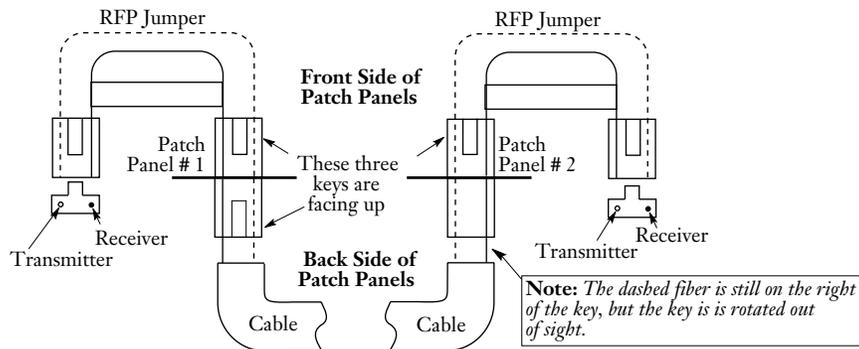

Figure 11
3.4 To correct this, a connector in one patch panel must be rotated 180°. Thus, one mated pair of MT-RJ connectors will have the keys oriented in opposite directions. This rotating of the cable run in the backside of one, and only one, patch panel will return polarity back to the system. Figure 11 illustrates this rotation and the restoration of polarity. Note that the dashed fiber is still on the right of the key but the key is rotated out of view. A Corning Cable Systems dual keyway adapter is needed to do this.